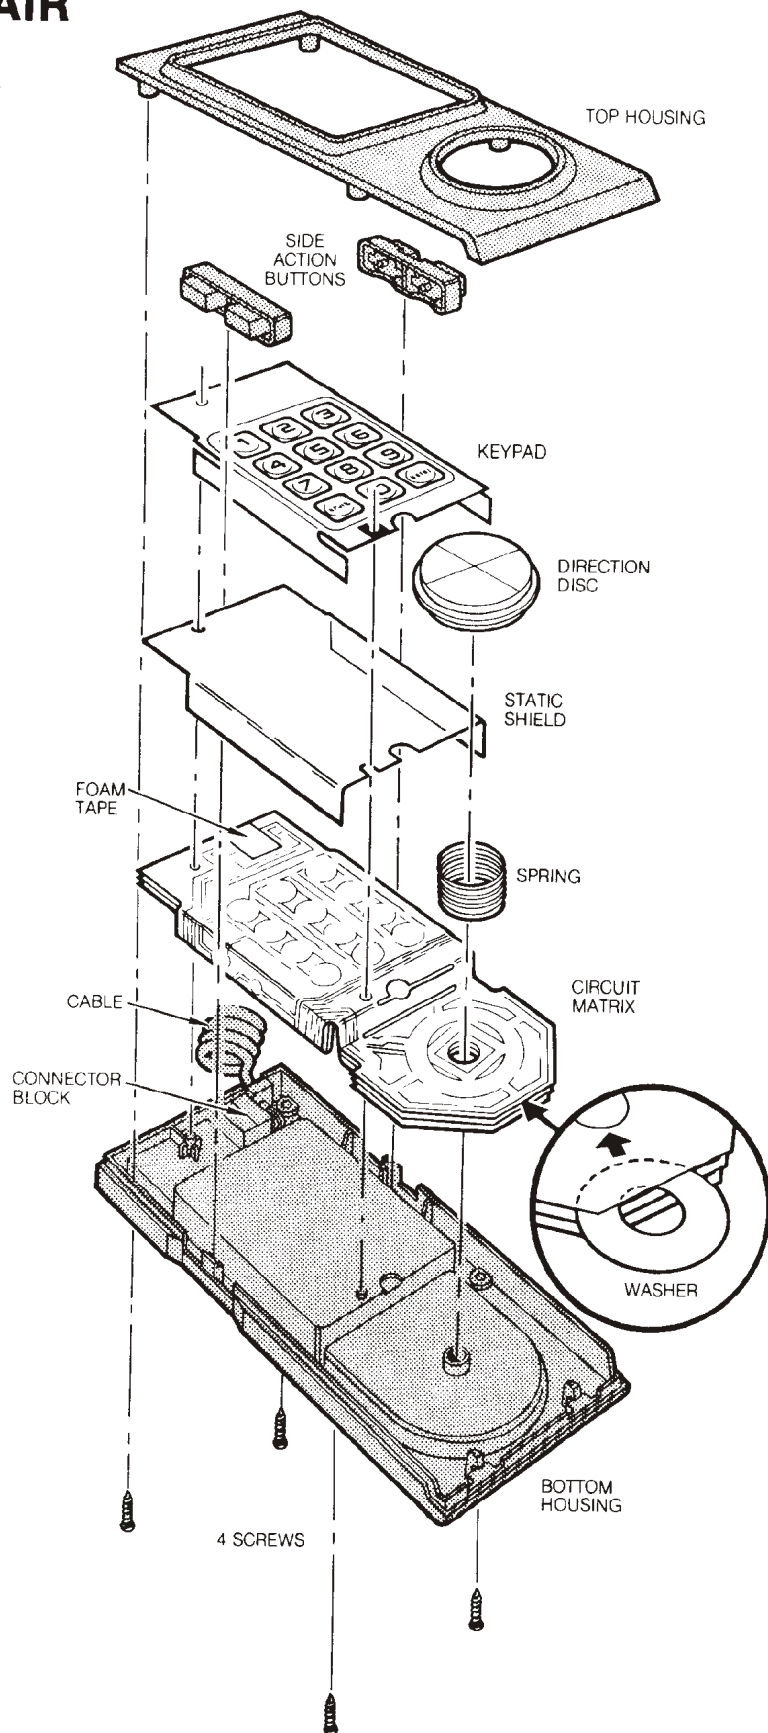
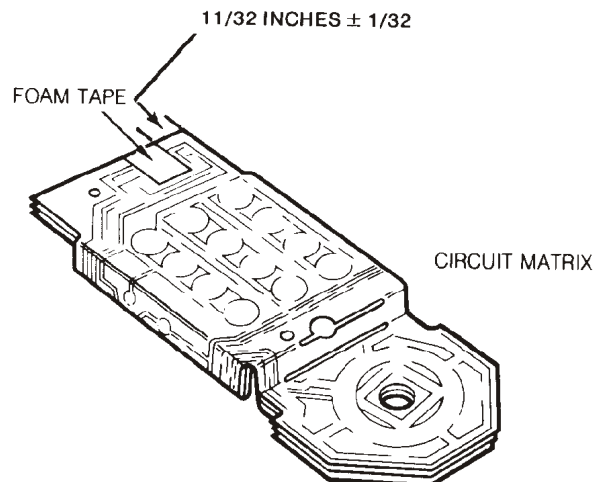

Figure 8
Figure 13 Foam Tape Replacement
(2) Carefully lift the top off and set it aside. Hold the number keypad and the Gold Directional Disc in place with one hand.
(3) Remove the Gold Directional Disc and Spring.
(4) Remove the Action Buttons from both sides.
(5) Remove the static shield and the circuit matrix from the lower housing. (See Figure 8.)
Apply foam tape (2609-6159) to circuit matrix as required. Refer to Figure 13. Install the circuit matrix as shown in Figure 8 and make sure it fits snugly over the top and bottom posts.
Foam tape is to be applied directly to the folded circuit matrix. Tape is to be captured between matrix and domed legend, and pressed to secure its position. Refer to Figure 13.
(3) Install the static shield over the folded circuit matrix, making sure the posts go through both sets of holes (shield and matrix). Refer to Figure 8. Hold the matrix and shield in place with fingers.
(4) Install the keypad over the matrix and static shield. Again make sure both posts go through keypad holes.
(5) Check that the components are correctly installed. Place the washer under the top layers of the circuit matrix and over the directional disc post as shown in Figure 8.
(7) Mount the spring and Directional Disc. Refer to Figure 8.